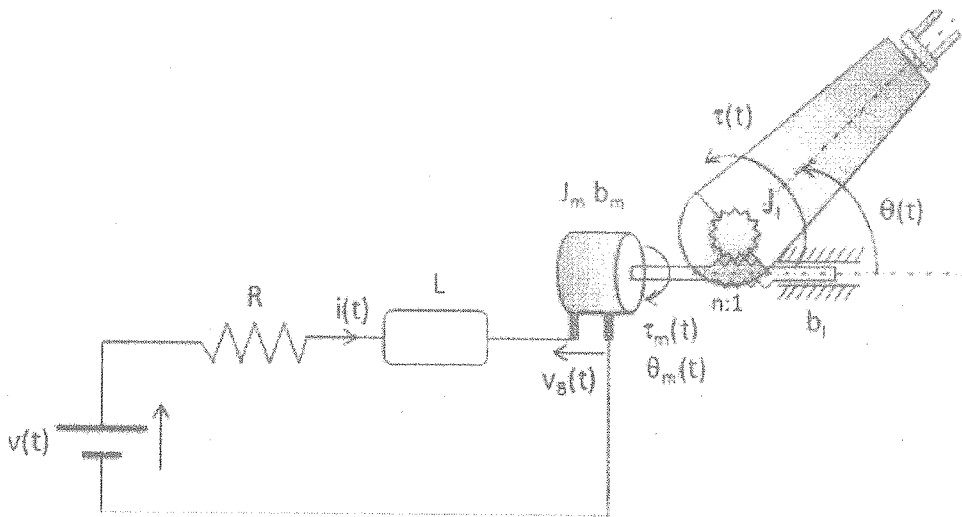

Figure Q4(b): Robot Arm and the Joint Motor
b) The schematic diagram of a robot arm is shown in Figure Q4 (b). Here, the joint motor of the robot arm is excited with a variable DC voltage $v(t)$. It is required to determine how the arm position; $\theta(t)$ changes when the voltage; $v(t)$ changes. List of other relevant parameters are given in the Table 1.